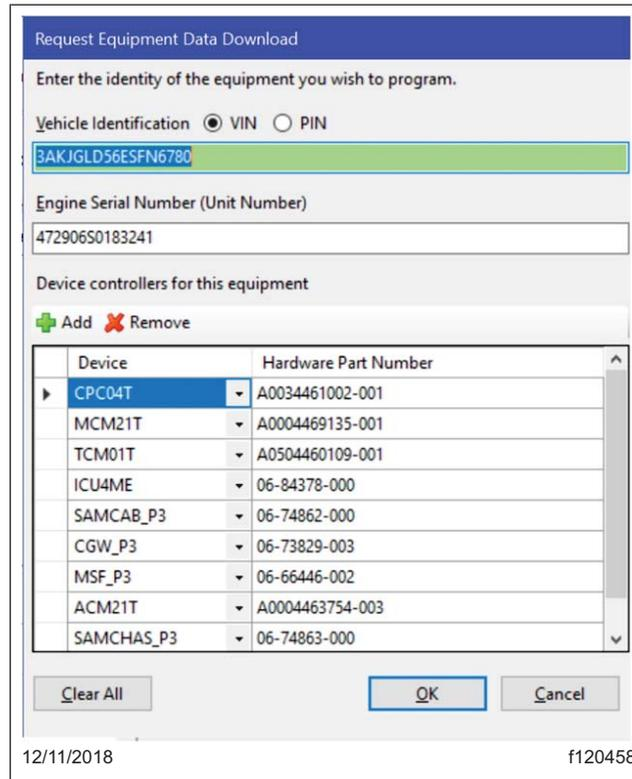

Fig. 6, Verifying Correct VIN Hardware
- Make sure the correct VIN and hardware is populated, then click OK. See Fig. 6.